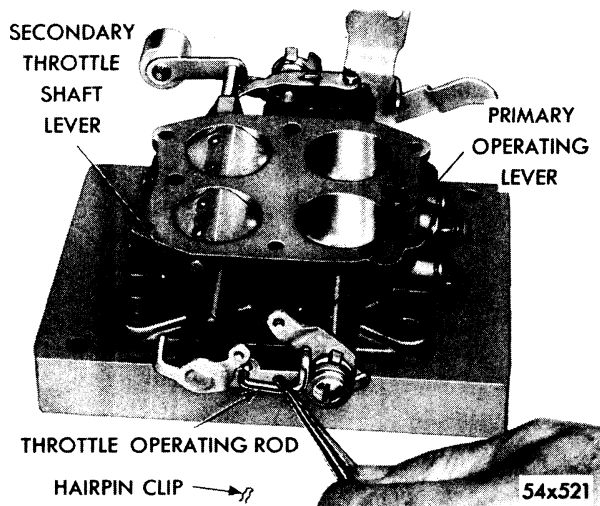

Fig. 29—Removing or Installing Throttle Operating Rod
- (1) Remove the hairpin clip that holds the throttle operating rod to the primary operating lever.
- (2) Slide rod out of lever, and disengage from the secondary throttle shaft lever, as shown in Figure 29.
- (3) Remove the screw that holds the throttle shaft washer, primary throttle shaft dog and primary operating lever to the primary